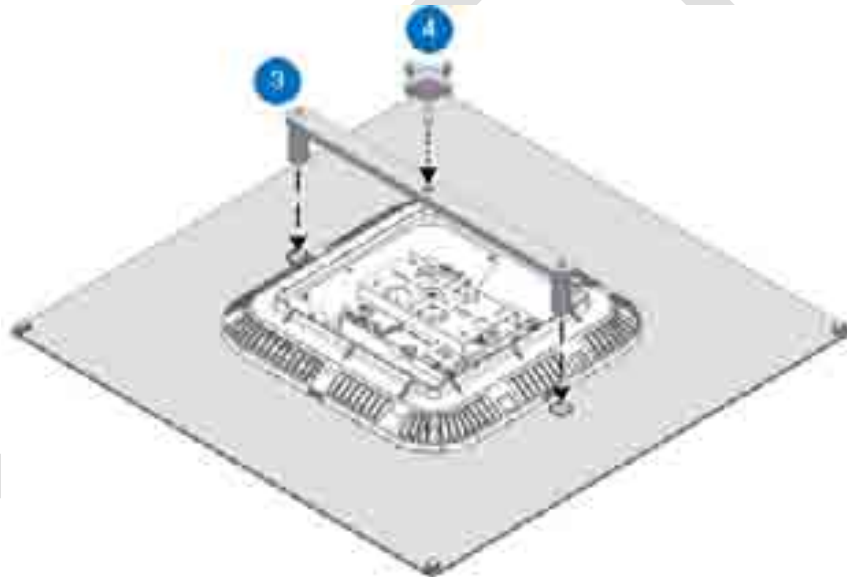

Figure 5-75. Assembling Flat Bar and Knob onto Plate
4. Assemble Flat Bar (Item 3) and Knob (Item 4) as shown in Figure 5-75.